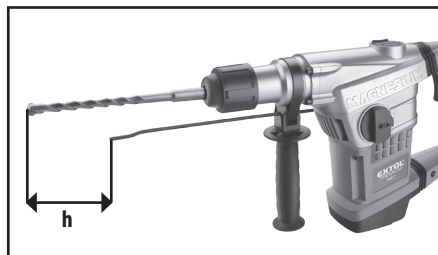

Fig. 5
- In order to measure out the depth of the drilled hole, it is possible to insert the depth limit stop (Fig. 5) (only on models equipped with one) into the hole located on the handle and to thereby set the required drill depth. The distance between the end of the depth limit stop and the end of the drill bit defines the depth of the hole, see Fig. 5.